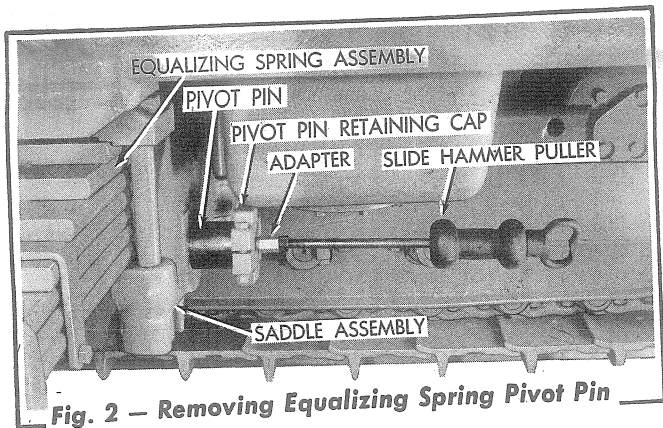

Fig. 2 — Removing Equalizing Spring Pivot Pin
6. Using a slide hammer puller as shown in Fig. 2, remove the pivot pin from the main frame and saddle assembly. *NOTE: On earlier model tractors it will be necessary to remove the pivot pin washer from the front end of the pivot pin.*